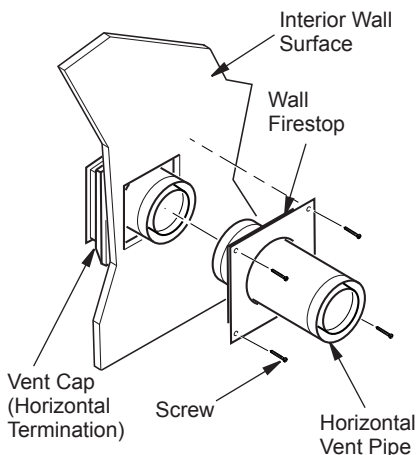
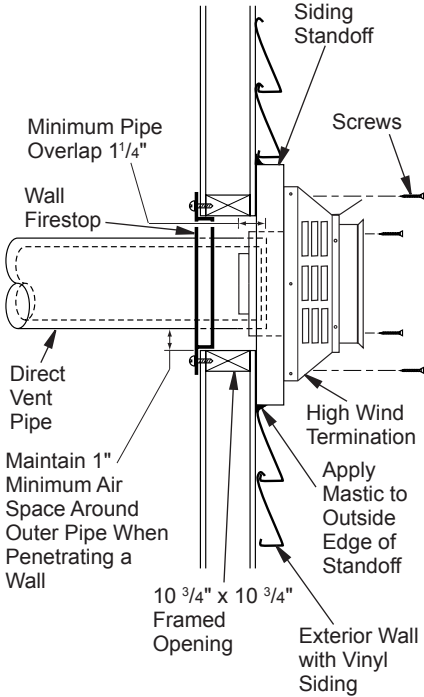

Figure 12 - Connecting Vent Cap with Horizontal Vent Pipe
Figure 13 - Typical Horizontal Termination Cap Mounting with Additional Siding Standoff Installed
7. **Combustible Exterior Wall Only:** Slide the wall firestop over the vent pipe before connecting horizontal run to vent cap (see Figure 12).
8. Carefully move fireplace, with vent assembly attached, toward wall and insert vent pipe into horizontal termination. The pipe overlap should be a minimum of 1 1/4" (see Figure 13, page 13).
attach with screws provided (see Figure 12). See Figure 13, page 13 for horizontal termination details.